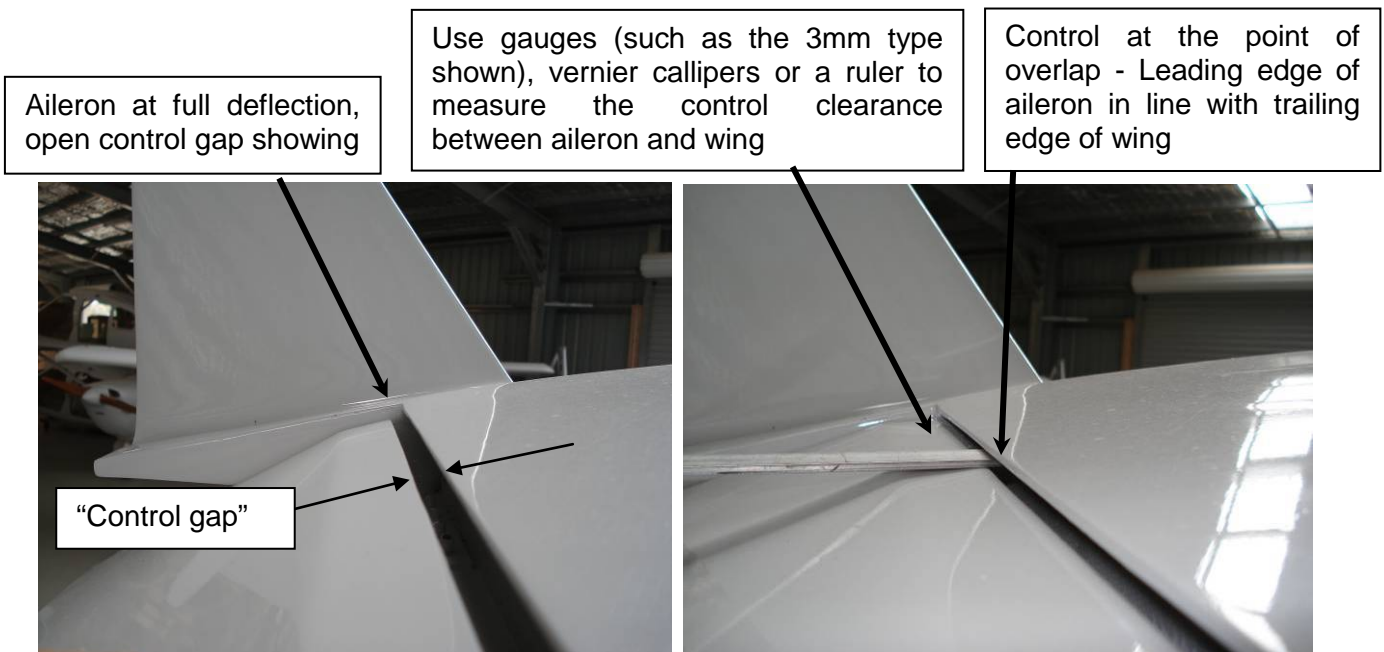

Figure 13 – Aileron Clearance
- **Control gap** – Best shown on Figure 13 (left). If the control passes the point of overlap a gap opens between the aircraft and the control. A gap like this combined with excess flexing of the control surface hinges will lead to control surface jamming.
- Check each control by moving it to its maximum deflection and inspecting for a control gap – as shown in the example of Figure 13.
- Set the controls so that the control being tested is at the point of overlap – as shown in the right picture in Figure 13. If the control being tested does not deflect to a point of overlap then place it as close as possible to the overlap point.